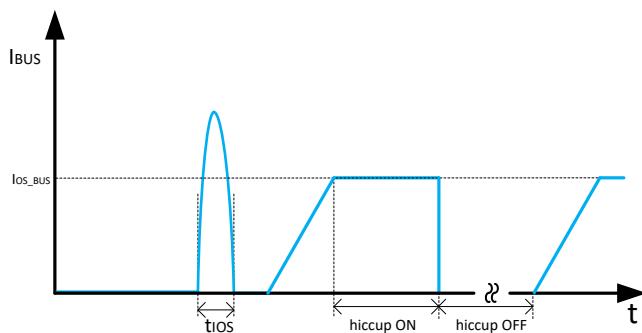

Figure 10-11. Response Time to BUS Short-Circuit
- The first condition is when a short circuit or overload is applied to the USB output when the device is powered up or enabled. There can be inrush current and once it triggers the approximate 8-A threshold, a fast turnoff circuit is activated to turn off the USB power switch within $t_{I_{OS_USB}}$ before the current limit control loop is able to respond (shown in Figure 10-11). After the fast turnoff is triggered, the USB power switch current-sense amplifier is over-driven during this time and momentarily disables the internal N-channel MOSFET to turn off USB port. The current-sense amplifier then recovers and ramps the output current with a soft start. If the USB port is still in overcurrent condition, the short circuit and overload hold the output near zero potential with respect to ground and the power switch ramps the output current to I_{OS_BUS} . If the overcurrent limit condition lasts longer than 4.1 ms, the corresponding USB channel enters hiccup mode with 524 ms of off-time and 4.1 ms of on-time.